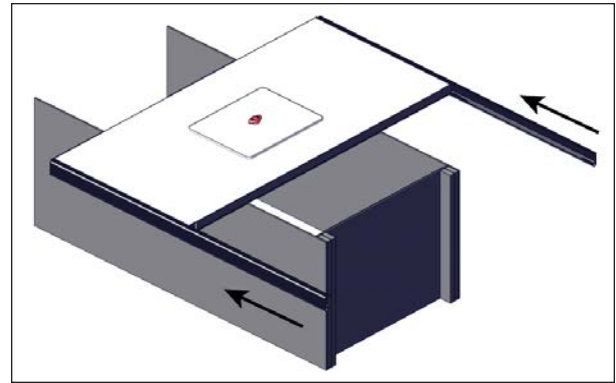
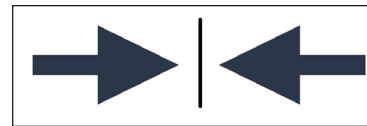

FIGURE 27: LONG C-CHANNEL INSTALLATION
FIGURE 28: CENTER LABEL
6. Install 2 long C-channels 94 9/16" (240 cm) on the panel so that the middle of the C-channel, premarked with a center label (Figure 28), is aligned with the edge of the panel, see Figure 27.